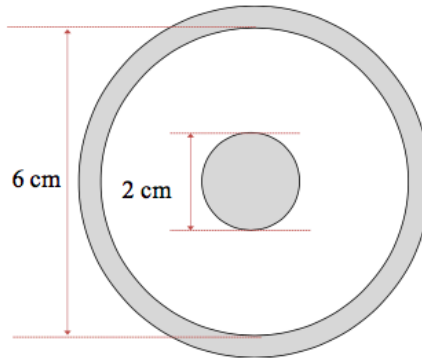

Figure 1. Cross section of circular coax.
- This part doesn't involve MATLAB. Simply compute the capacitance per-unit-length C_ℓ of a symmetrical, circular coaxial cable with the dimensions shown in Figure 1. Present your computations and value in **Slide 2** (if you used an online capacitance calculator, please give the name and link to the calculator). Assume that air separates the two conductors. If your computations are correct, your answer will be between 5 and 25 pF/m.
- Check your result above for the capacitance per-unit-length, by comparing your numerical result with the known capacitance per-unit-length of a similarly sized circular coaxial cable shown in Figure 1. These two capacitances should be on the same order of magnitude. Present a comparison and calculated percent difference in **slide 10**. If these two results do not agree at all (i.e. they are not on the same order of magnitude), then you likely made a mistake in your MATLAB code, and should go back and correct.